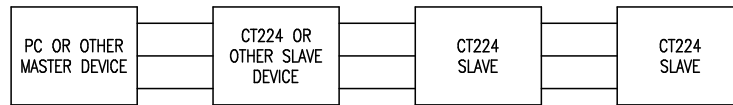

Figure 12 – Master Slave Chain
A network of CT224's should be wired so that the CT224's are in a chain. However, only devices using RS485 can be connected in this manner. RS232 will only allow one (1) device to be connected to a port, so RS232 devices cannot be used in a network. A star or ring configuration is **not** appropriate for RS485. Each CT224 should only be connected to at most 2 other CT224. Figure 12 shows the basic wiring for a chain configuration. Like terminals on the CT224's should be connected together in the chain, A to A, B to B, S to S.